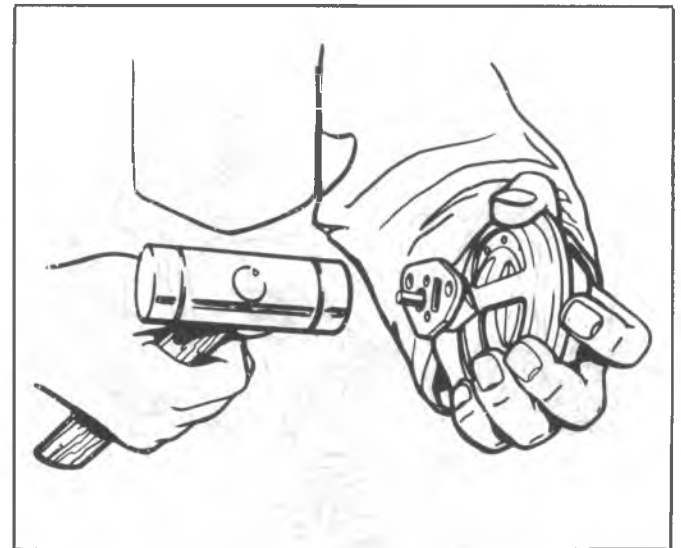

Figure 152 EGR Valve Cleaning
1. Hold the valve assembly in hand (Figure 152). Then, using a light snapping action with a plastic hammer, tap on the end of the round pintle to remove the exhaust deposits from the valve seat. Empty loose particles.